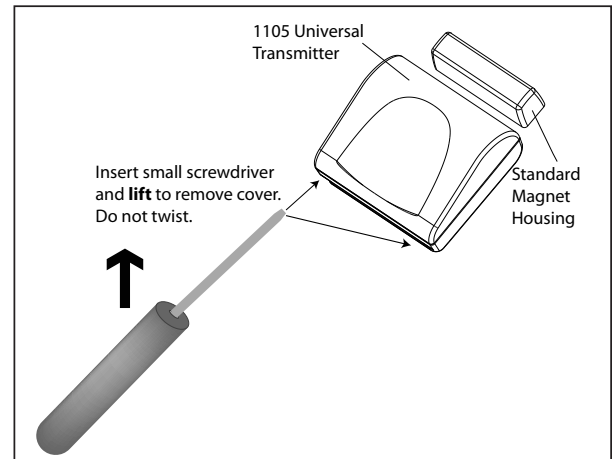

Figure 1: Transmitter and Magnet
1. Remove the cover and battery if installed. See Figure 1.
1. If installed, remove the transmitter housing cover as shown in Figure 1.